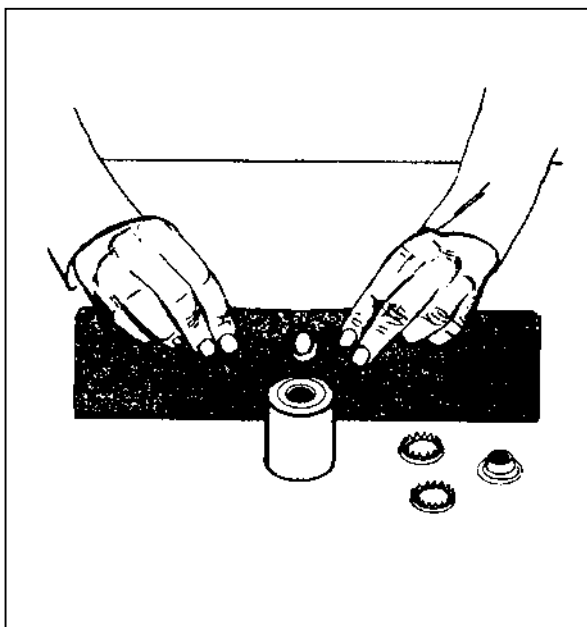
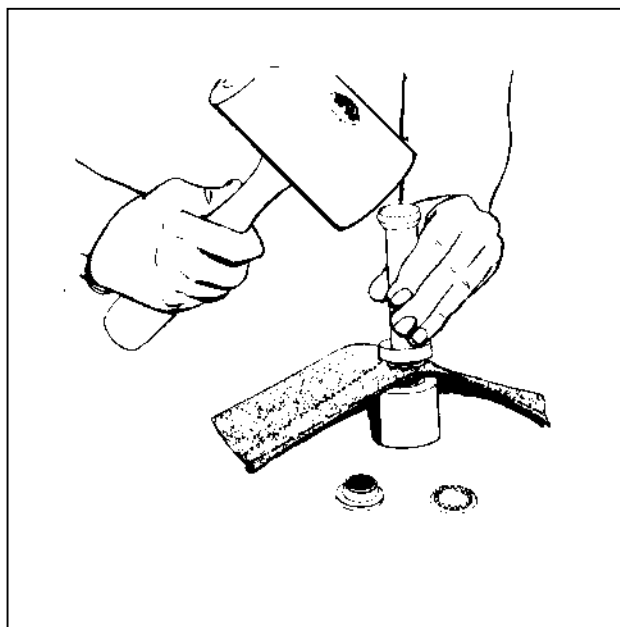

Figure 12-7. Placing barrel on grommet die
Figure 12-8. Hitting punch with a rawhide mallet
- (1) If the old grommet hole will be used, obtain a rawhide mallet, a brass grommet, and a punch-and-die set. Use a size 4 punch-and-die with a size 4 grommet and a size 5 punch-and-die with a size 5 grommet.
- (2) If a new grommet hole will be cut, obtain the tools listed above, a heavy woodblock, and a size 5 cutting punch for a size 4 grommet and a size 6 cutting punch for a size 5 grommet. Position the canvas faceup on the end-grain surface of the woodblock, and cut a grommet hole with the cutting punch.
- (3) Insert the barrel into the hole through the underside of the canvas.
- (4) Place the canvas and the flat bottom part of the barrel on the grommet die (Figure 12-7).
- (5) Place the washer, spurs down, over the barrel.
- (6) Insert the punch into the barrel, and hold the punch in place with one hand.
(7) Hit the top of the punch with a rawhide mallet hard enough to clinch the two parts to the canvas without damaging the grommet or the canvas (Figure 12-8). When the parts are clinched properly, the edge of the barrel has a smooth roll.